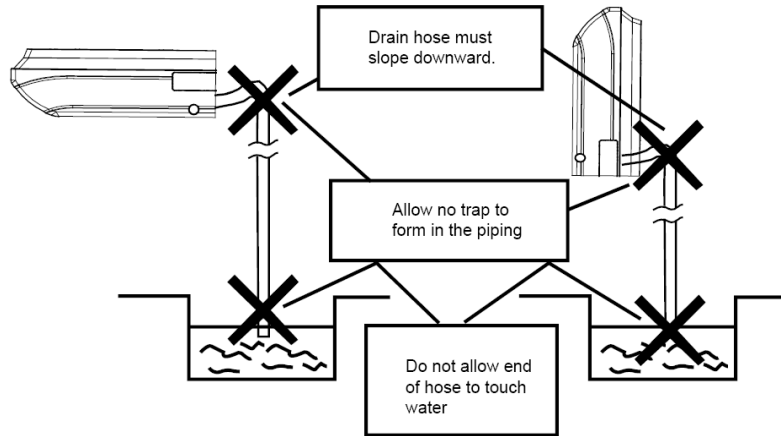

Figure 3-1-32
(4) Connect the drain hose. (Figure 3-1-32)